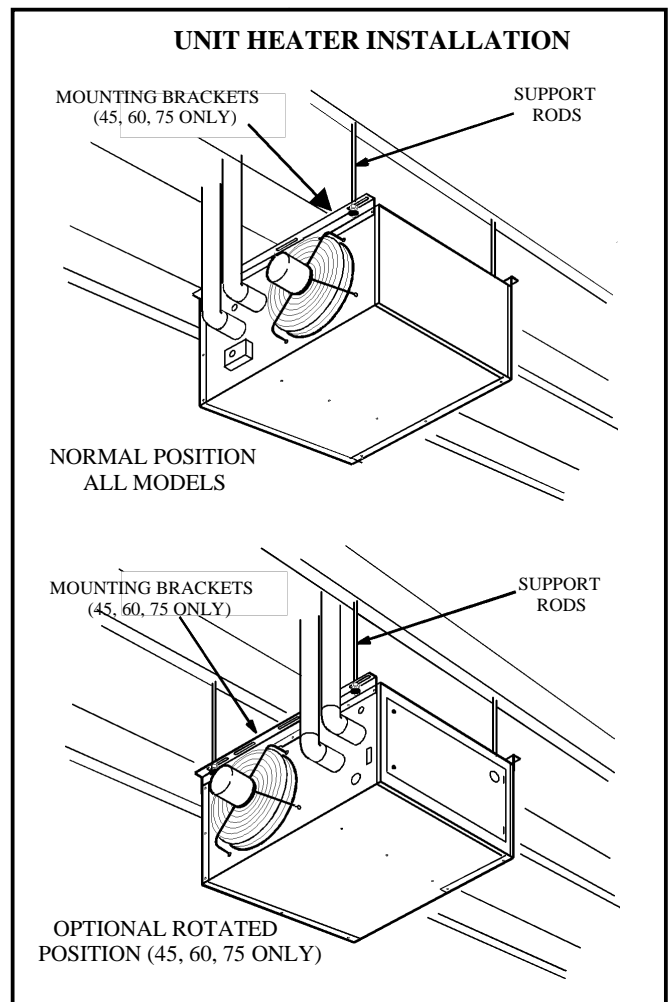

FIGURE 1
Unit is shipped ready for installation. FOA\*-45, -60, & -75 units may be installed as shown in figure 1 or rotated 180° depending on desired location as governed by clearances, vent connection, air direction, gas supply, electrical supply and service accessibility.
- 5) To support unit, secure mounting bracket to ceiling joist or truss. Unit may also be supported using support rods as shown in figure 1.